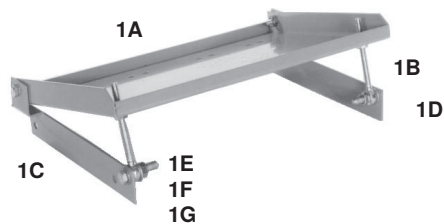

Figure 5. Motor Mounting Plate Assembly (Refer to Table 11)
- The assembly shown in Figure 5 is the motor-mounting plate assembly used on a unit with a 1/3- to 1.5-HP belt-driven motor.